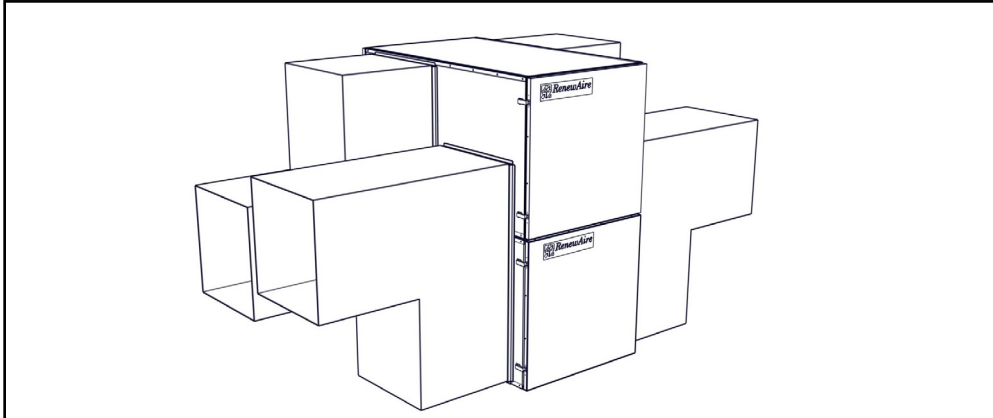

FIGURE 2.4.3 CONNECT DUCTWORK
3. Connect ductwork to the flanges. See Figure 2.4.3.